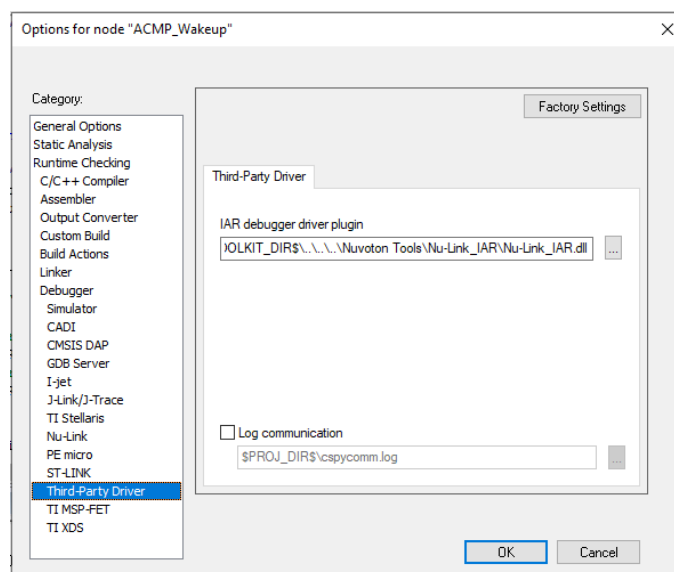

Figure 4-19 Set the Path of the IAR EWARM Debugger Driver Plugin
Step 7: In the **Third-Party Driver** page, specify the path of the IAR debugger driver plugin "C:\Program Files\Nuvoton Tools\Nu-Link_IAR\Nu-Link_IAR.dll", as shown in Figure 4-19.